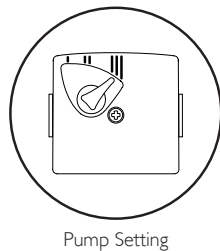

Fig. 88
3. A standard replacement Grundfos 15-60 head can now be fitted. Connect the pump wiring to the new head. **The pump speed must be set to 3** (Fig. 88).